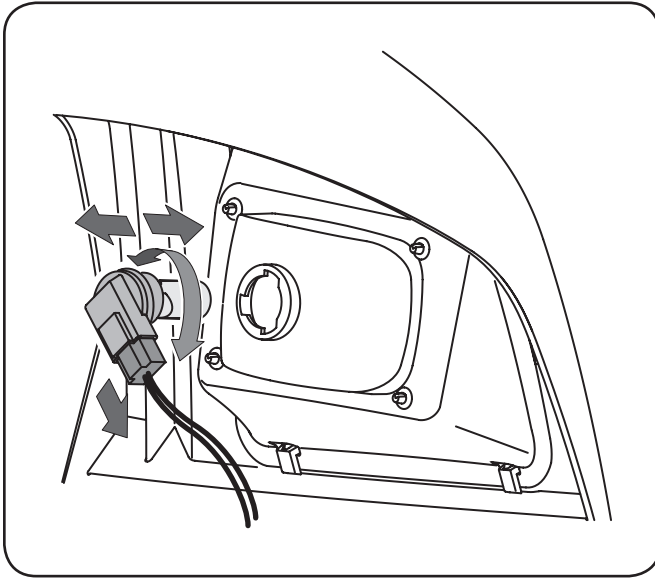

Figure 6-1
2. Turn the bulb/socket assembly approximately a quarter turn counterclockwise to align its tabs with the notches of the reflector, then remove from the reflector. See Figure 6-1.